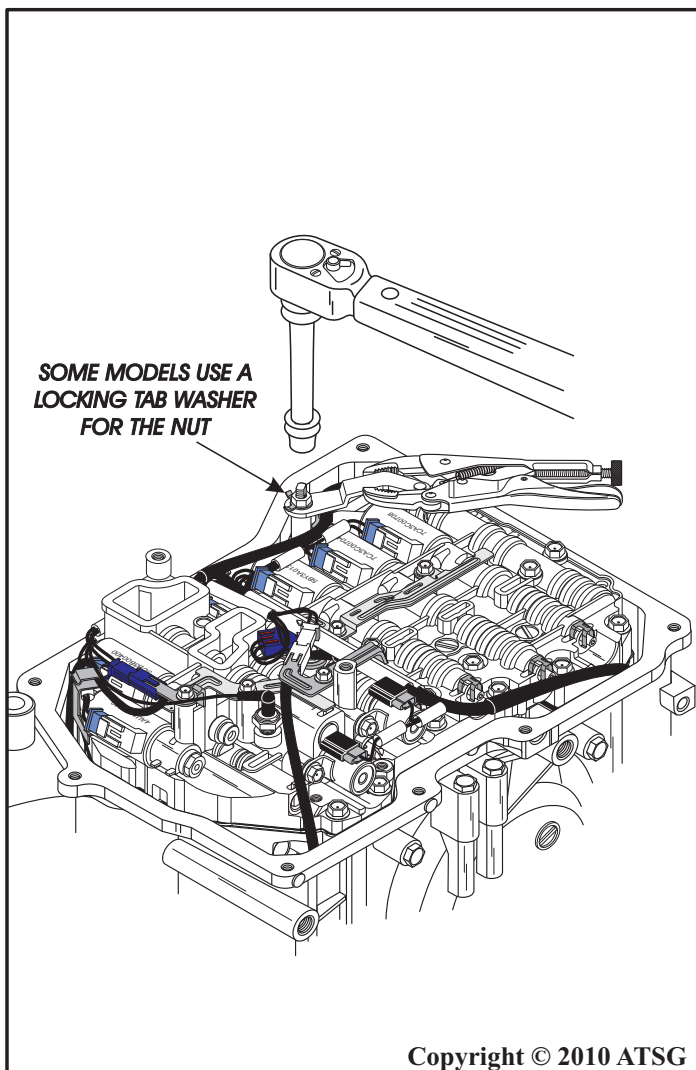

Figure 55
12. Remove the internal manual shift lever retaining nut, using pliers or vice-grip to hold shift lever, as shown in Figure 55.